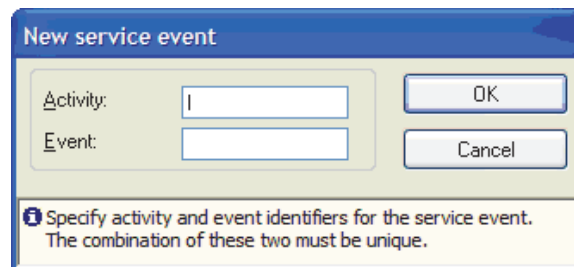

Figure 3-63. Creating a New Service Event
- Enter a short name for the service event in the **Activity** textbox shown in Figure 3-63.